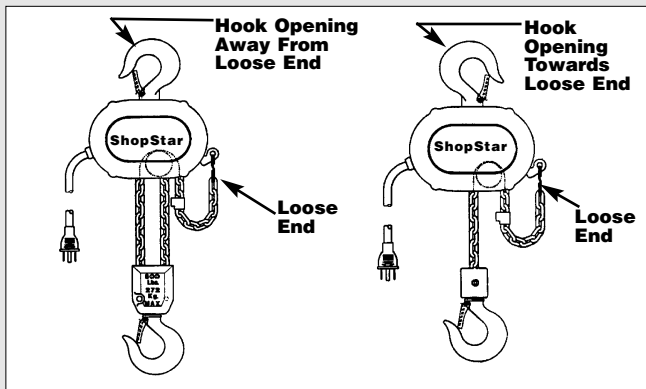

Figure 13A
10. Properly install the upper hook as shown in Figure 13A, then slide the hook retainer (620-139) into the cavity on top of the hoist and secure it using hook retainer screw (620-140). Tighten screw to a seating torque of 10 in. lbs. (1.1 NM).